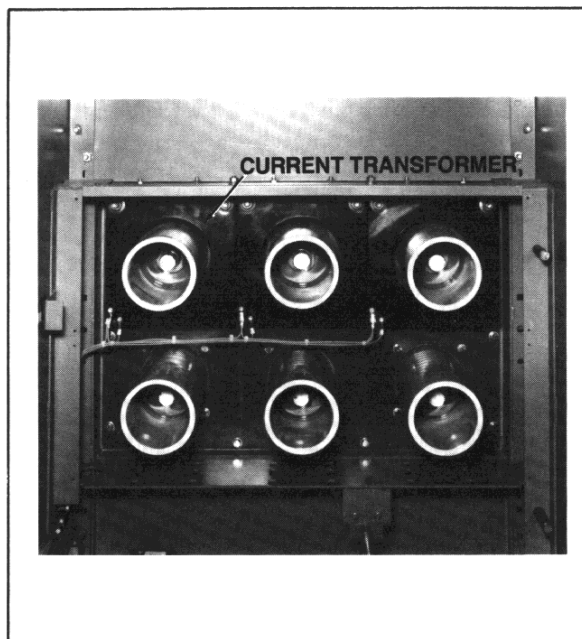

Figure 1-11
1.2.7 Current Transformers (Figure 1-11)